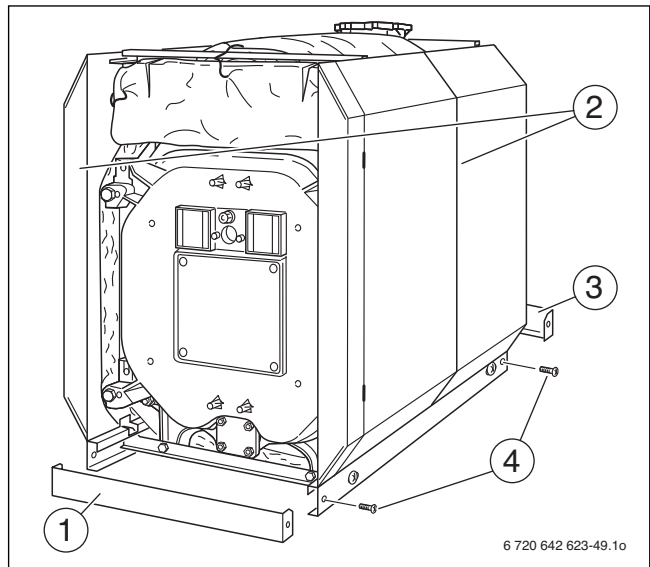

Fig. 51 Mounting the base rails
- ▶ Once the side panels (→ Fig. 51 [2]) have been vertically aligned, the self-tapping screws in the base rail (→ Fig. 51, [4]) must be tightened.
- ▶ Push the base rails that run crosswise (→ Fig. 51, [1 and 3]) into the base rails that run lengthwise from the front and back. The folded edge on the cross plate must be at the bottom in each case, and point toward the boiler (→ Fig. 51).